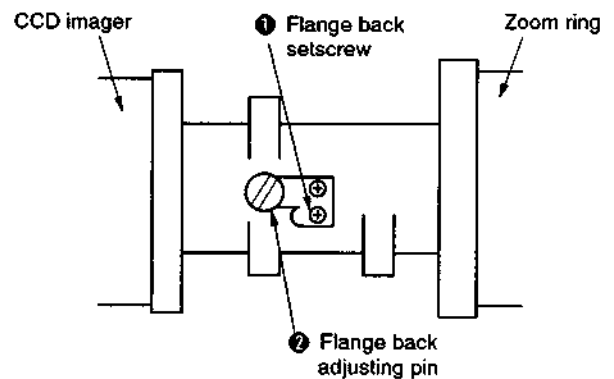

Fig. 7-12.
- 7) Open the DK-10P board and loosen flange back setscrew ❶ with a Phillips screwdriver. (See Fig. 7-12.)
- 8) By turning the flange back adjusting pin ❷ while watching the monitor screen, attain the optimum definition of a wedge at the Siemens star center on the screen. (Turn it a few turns to the left and right to ensure optimum definition.)